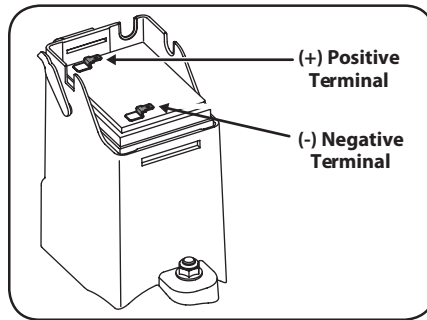

Figure 4-12
- Unhinge the cover seal and plug the battery charger into the port on the side of the battery housing. See Figure 4-12.